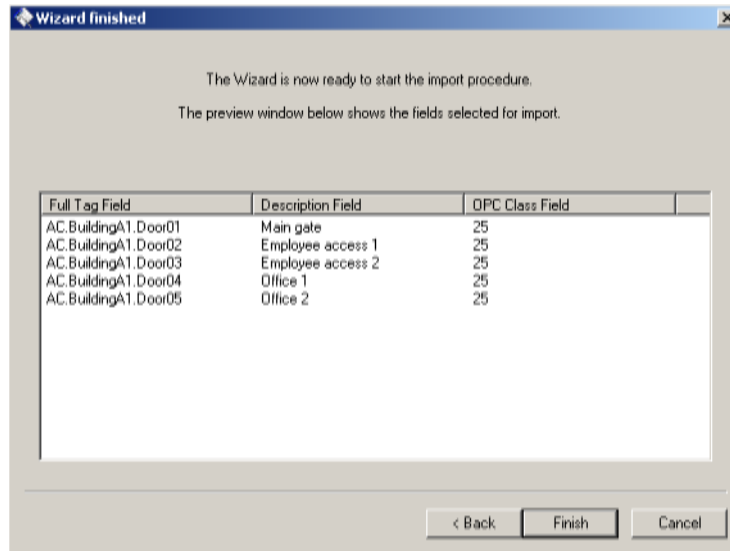

Fig 30 Step 3 Import Wizard: check selection and finish
- Finally, check that the column selection is correct and click Finish to start executing the import (Fig 30).